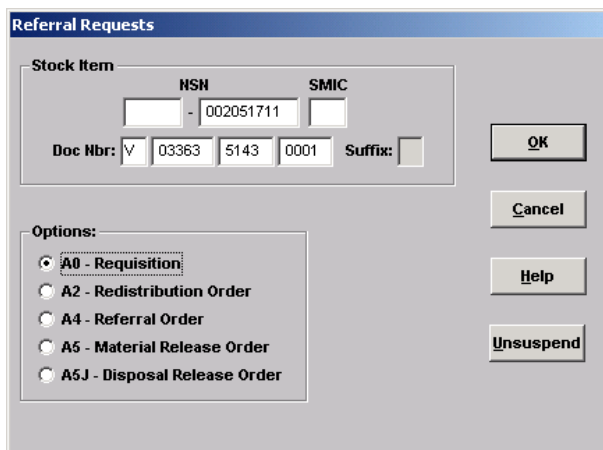

Figure 6.22
- 6.6.1 The **Referral Requests** window (Figure 6.22) is used to search for a Referral Request by **NIIN** and **Document Number**. Enter **SMIC** and **Suffix Code** as required. If Suffix is left blank, matching document numbers, regardless of suffix code will be retrieved. Select a Referral option and then click **OK**.
- 6.6.2 With **A0-Requirement** selected on the **Referral Requests** window (Figure 6.22), the **Referrals** window (Figure 6.23) displays with a requisition document submitted to a supply source to obtain material.
- 6.6.3 With **A2 - Redistribution Order** selected on the **Referral Requests** window (Figure 6.22), the **Referrals** window (Figure 6.24) displays with an order issued by a responsible IMM to an accountable supply distribution complex directing release of material to another supply distribution activity within the same supply complex.
6.6.4 With **A4 - Referral Order** selected on the **Referral Requests** window (Figure 6.22), the **Referrals** window (Figure 6.25) displays with an order used between depots, supply centers, inventory managers, or other managers in an established supply distribution system for passing correctly routed requisitions for continued supply action when the initial activity cannot fill the demand.
- 6.6.5 With **A5 - Material Release Order** selected on the **Referral Requests** window (Figure 6.22), the **Referrals** window (Figure 6.26) displays with a requisition type order issued by an accountable supply system manager (usually an inventory control point or accountable depot or stock point). The order goes to a non-accountable activity (usually a storage site or material drop point) within the same supply distribution system to release and ship material.
- 6.6.6 With **A5J - Disposal Release Order** selected on the **Referral Requests** window (Figure 6.22), the **Referrals** window (Figure 6.27) displays with a requisition type order issued by an accountable supply system manager (usually an inventory control point or accountable depot or stock point). The order goes to a non-accountable activity (usually a storage site or material drop point) within the same supply distribution system to release and ship material to a DRMO.